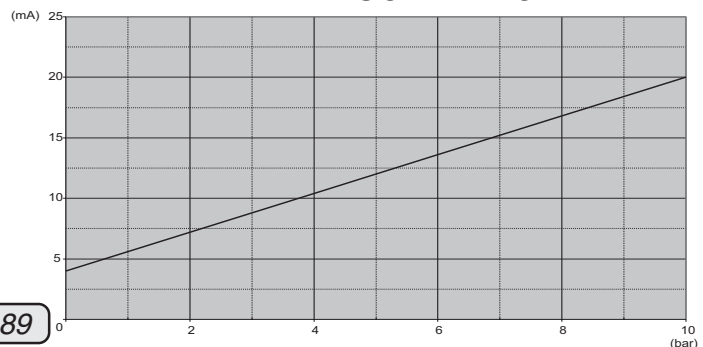

Fig. 89
- output signal: In contrary to the oil pressure sensor offered up to now, which was providing the signal on the basis of a sensor resistance variation, the new oil pressure sensor (1) operates on basis of a current variation. This has to be taken into account for the selection of the appropriate cockpit instrument.
■ **CAUTION:** The graph current over pressure has been determined, and is effective at the following conditions only (see fig. 89).